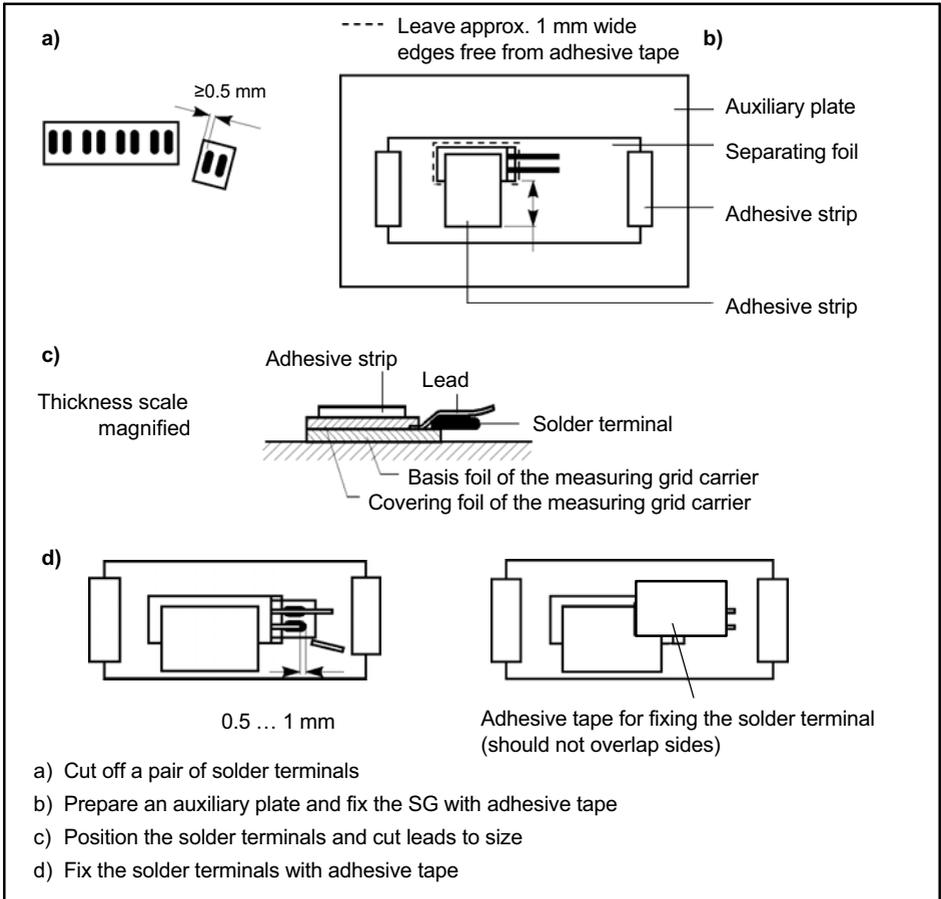

Fig. 3.6 Auxiliary technique 2 for SG installation
- ▶ Cut a pair of solder terminals from a strip (the overlapping edge should remain at least 0.5 mm wide), *Fig. 3.6, sketch a*.
- ▶ Stick tape onto the top of the SG, overlapping the SG by approx. 10 -15 mm over one side. The other three sides of the SG must remain free! See *Fig. 3.6*, sketch b. Stick the SG onto the separating foil with the overlapping section of the tape.
- ▶ Insert the solder terminals between the basis foil of the measuring grid carrier and connections, see *Fig. 3.6*, sketch c, and then shorten the connection leads.
- ▶ Join the SG and solder terminal with tape; cover the entire metal surface with tape, see *Fig. 3.6*, sketch d.